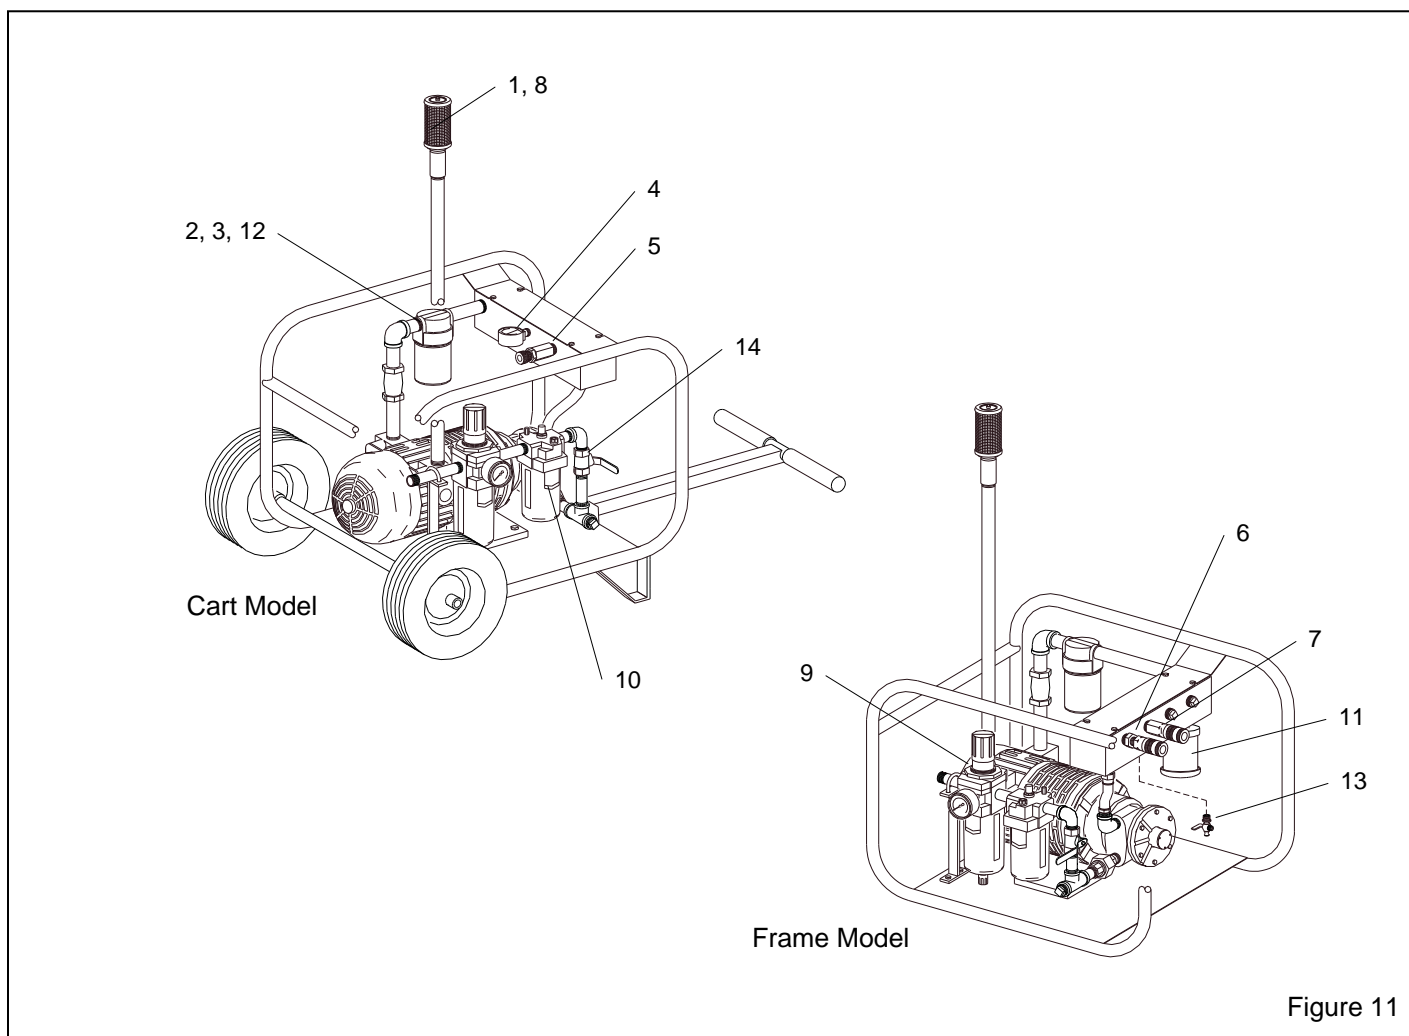

Figure 11
8.2 Replacement parts, Figure 11